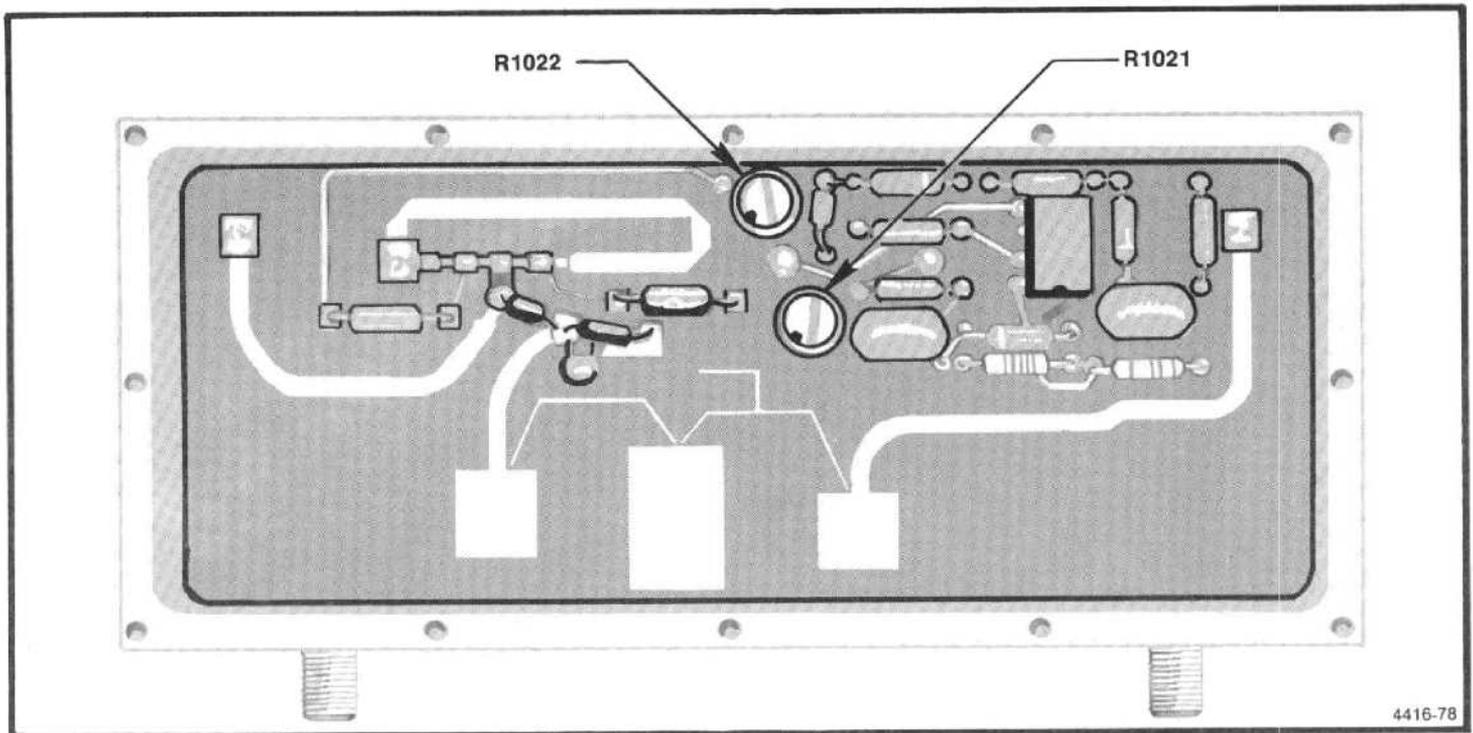

Figure 6-12. 110 MHz filter adjustments.
3. Adjust the tuning slugs for best response shape, centered around the reference (Figure 6-12). Ensure bandwidth (6 dB down) is 1 MHz.